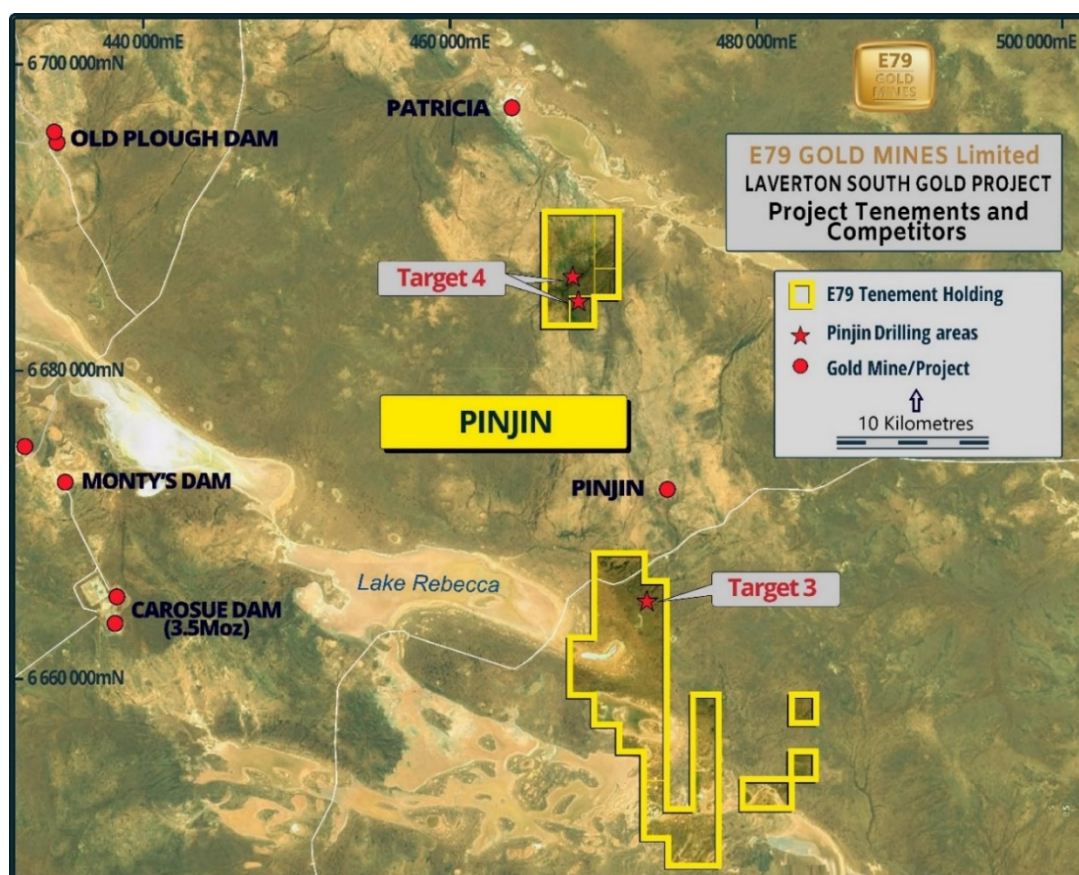

Figure 1. Tenement location map of Pinjin Project with recently drilled targets.
E79 Gold recently completed 14 Reverse Circulation (RC) drill-holes for 2,490m at Target 3 (Figure 1). This first-pass drilling was designed provide a deeper test of a significant 2.6-kilometre-long gold system identified from recent reconnaissance aircore drilling.